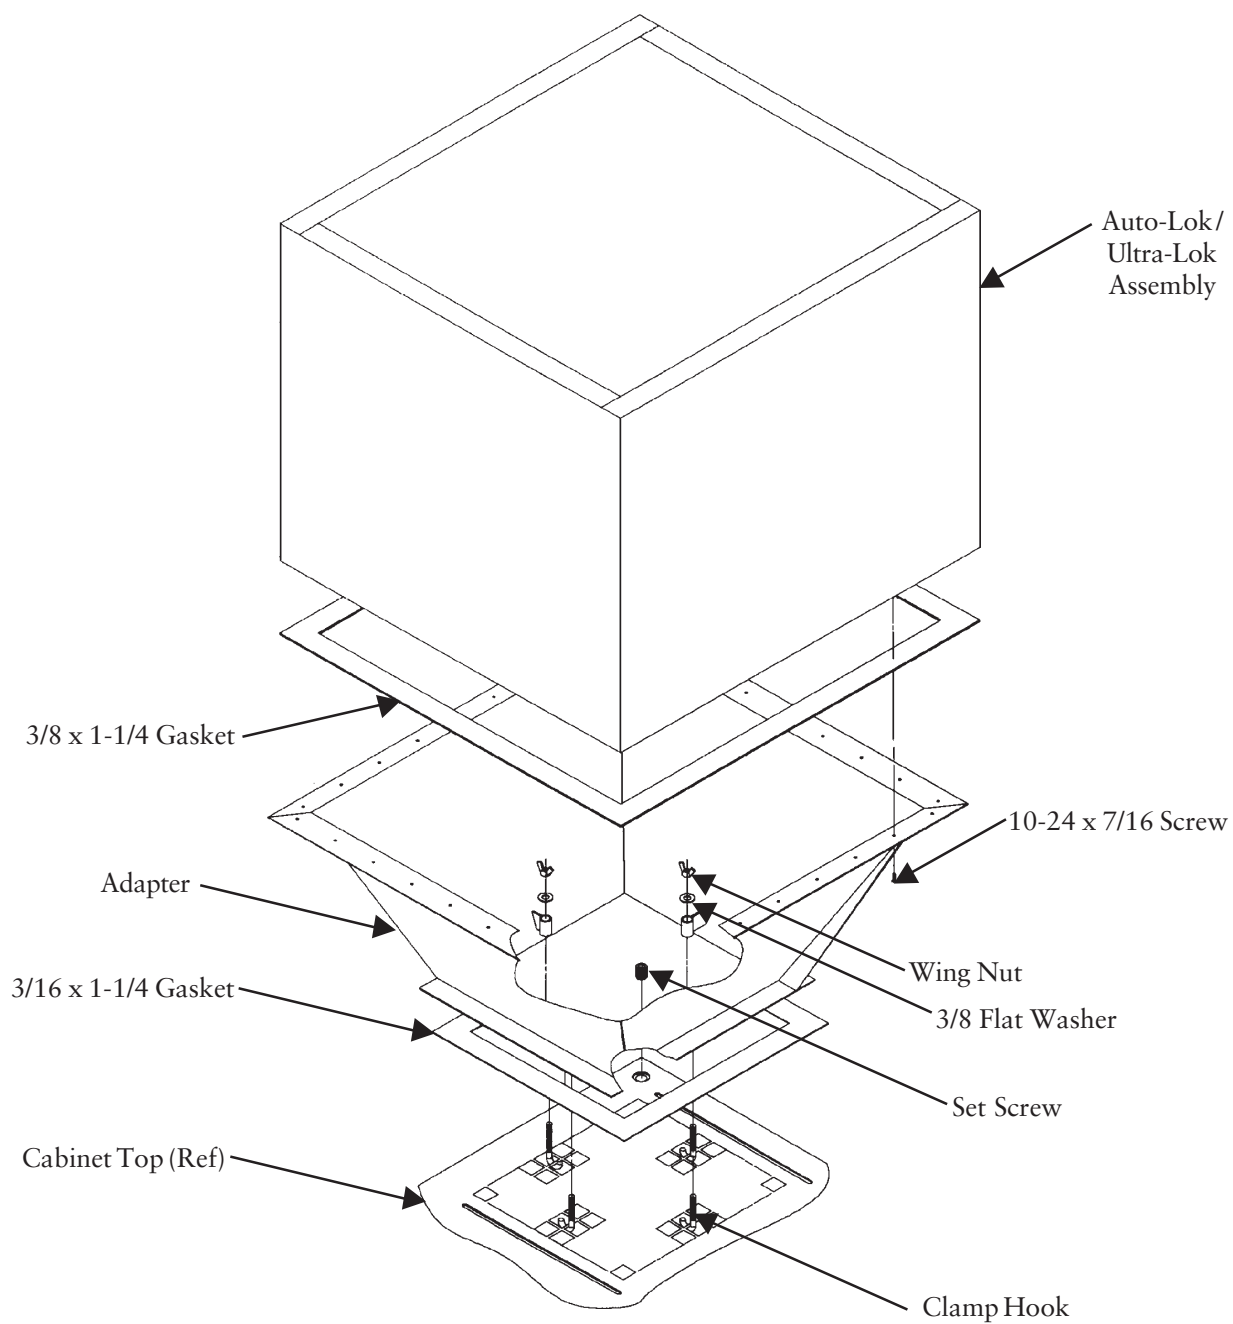

Figure 7
2.5.5 Adapter Auto-Lok / Ultra-Lok (See Figure 7 Adapter Pack Auto-Lok / Ultra-Lok)